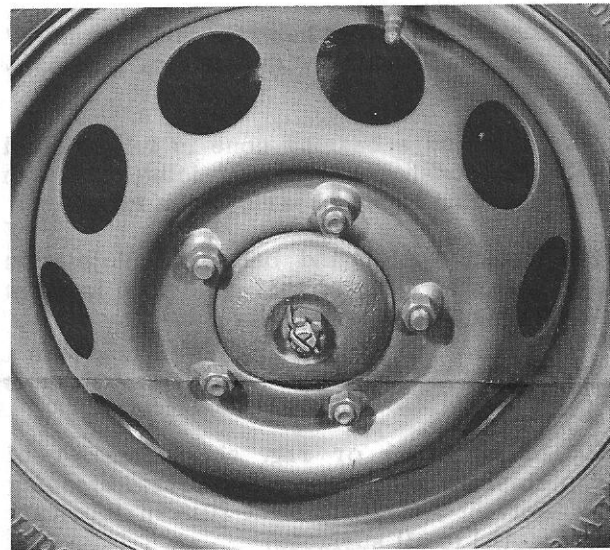

Figure 23.
33. Install and bend over new cotter pin as shown. Record modification in vehicle record (fig. 23).